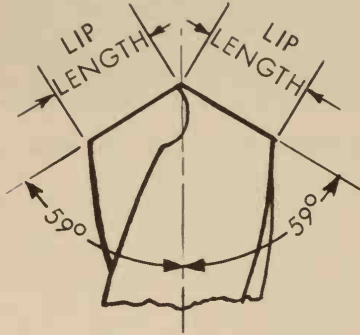

Fig. 4-44. Correctly ground drill lips.
lips should form an angle of 59 degrees, Fig. 4-44.
2. Lip length. Both cutting edges (lips) must be the same length, Fig. 4-44. If the lips are of unequal length the drill will cut oversize.